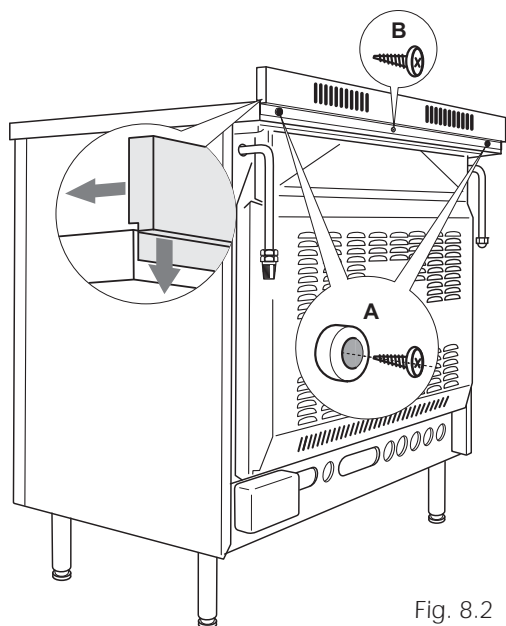

Fig. 8.2
- Assemble the backguard as shown in figure 8.2 and fix it by screwing the central screw "B" and the spacers "A".